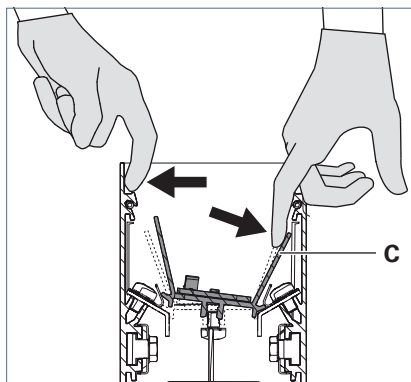

Fig. 13: Disengaging the reflector.
- Push one side wall of the luminaire outward by pushing the reflector **C** in the opposite direction at the same time, see Fig. 13.